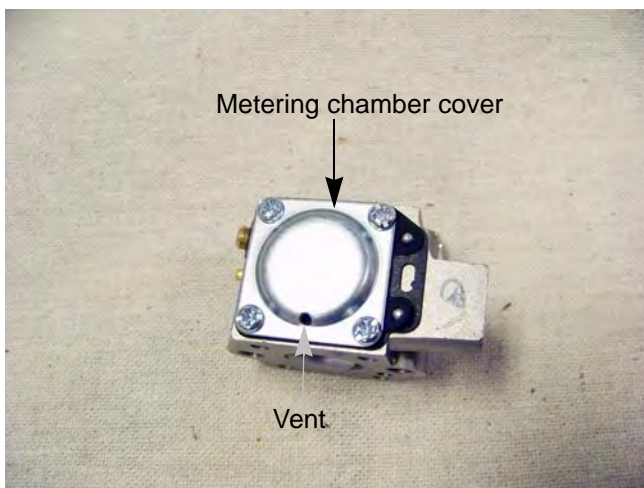

Figure 5.17
6. Remove the four screws that secure the metering chamber cover to the carburetor using a #2 phillips screwdriver. See Figure 5.17.